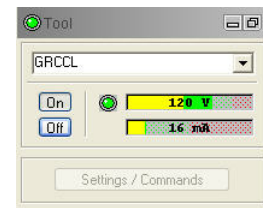

Figure 4-1 Tool panel
2. Select the relevant QL40 GR-CCL tool from the drop down list (Figure 4-1) in the software's **Tool** panel (if your tool is not listed check that your tool configurations file is stored in the designated folder on your computer).
4. On the **Tool** panel (Figure 4-1) click the **Settings / Commands** button to configure your tool (see chapter 4.5 for details).